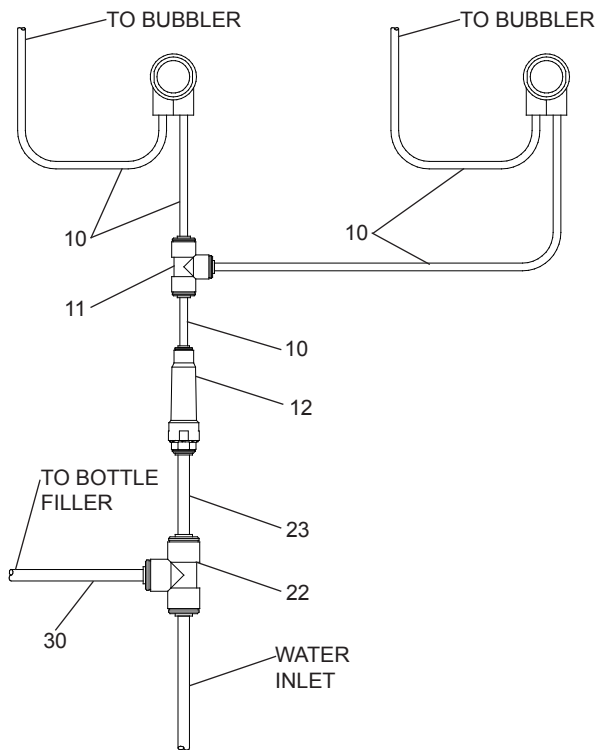

Figure 2 - HTHB-HRFSEBP-I Tube Routing
- 3a. (For HTHB-HRFSEBP-I) **Install** 3/8" tee, poly tubing and strainer per (Fig. 2).